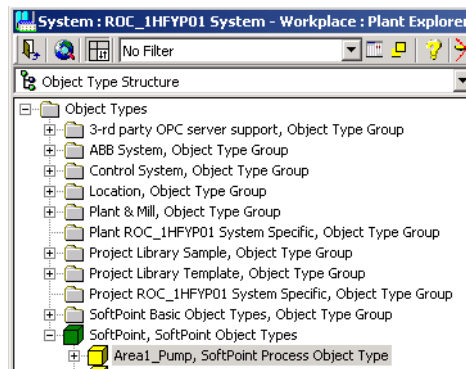

Figure 6. New Object Type Added
4. In the New Object dialog, assign a name to the new object, then click **Create**. This adds the new object type to the SoftPoint Object Type group, Figure 6.